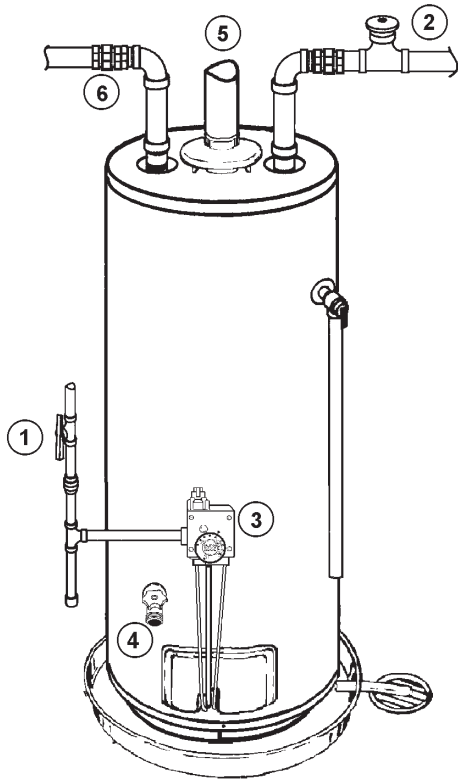

FIGURE 3.
If the main gas line shut-off valve serving all gas appliances is used, also shut "OFF" the gas at each appliance. Leave all gas appliances shut "OFF" until the water heater installation is completed, see Figures 3 and 4.
2. Turn "OFF" the water supply to the water heater at the water shut off valve or water meter. Some installations require that the water be turned off to the entire house, see Figures 3 and 5.
4. Attach a hose to the water heater drain valve and put the other end in a floor drain or outdoors. Open the water heater drain valve. Open a nearby hot water faucet which will relieve pressure in the water heater and speed draining. The water passing out of the drain valve may be extremely hot. To avoid being scalded, make sure all connections are tight and that the water flow is directed away from any person, see Figures 3 and 6.